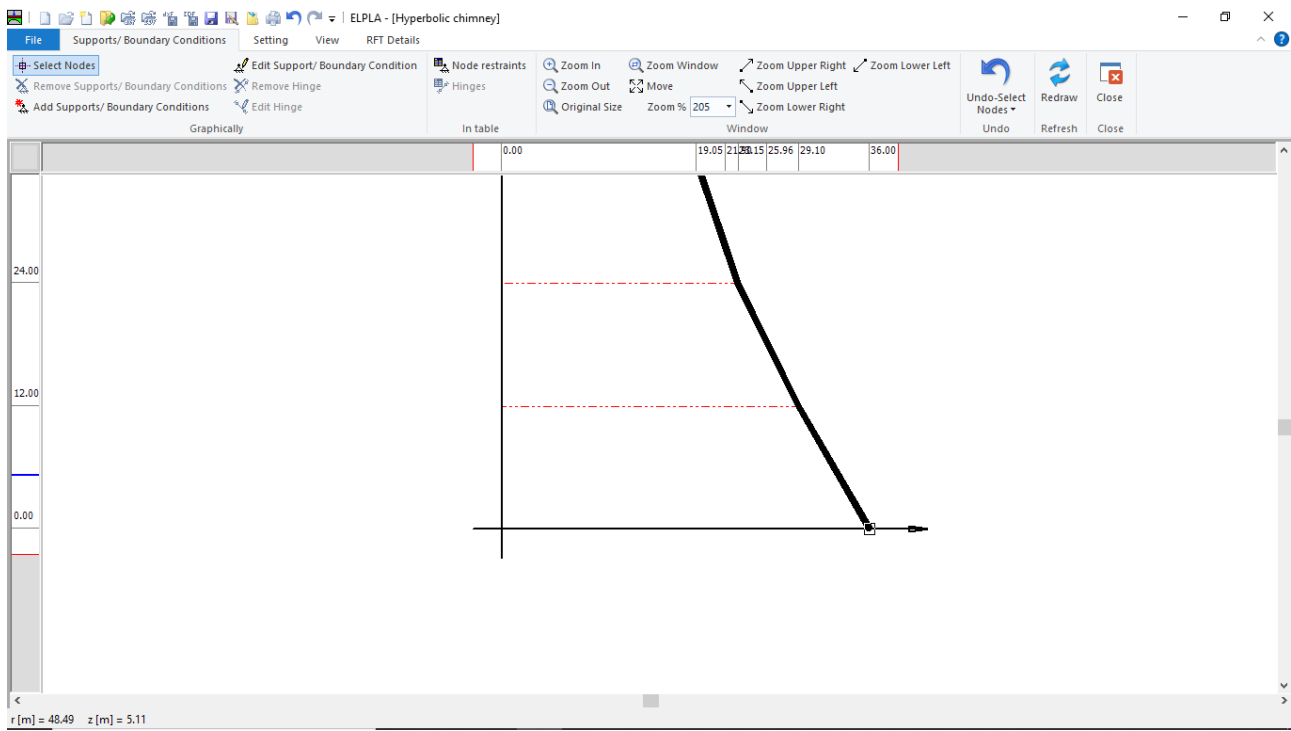

Figure 11.18 Selection of the node that has a hinged support
- Click the left mouse button on the node that has the support as shown in Figure 11.18